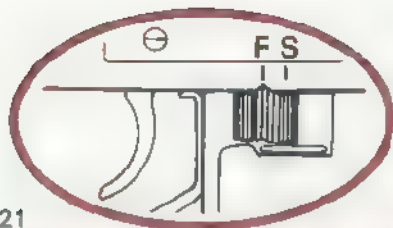

fig. 21
2. Set fire selector to "F" (Fire) (fig. 21).